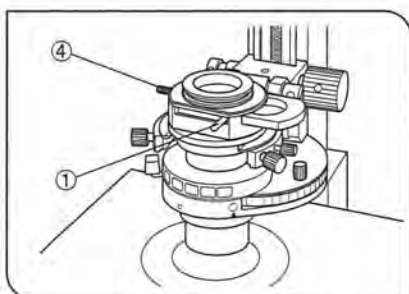

Fig. 64
(Figs. 64 to 66)
1. Rotate the condenser's turret for the BF (brightfield) light path (with no optical element engaged in the light path). (Fig. 64)
2. Slide the polarizer detaching lever ① on the IX-LWPO polarizer to engage the polarizer in the light path. (Fig. 64)
7. While observing the objective's exit pupil, rotate the polarizer rotation/clamping knob ④ on the polarizer unit horizontally until the black interference stripe becomes darkest. This is the position for use of the polarizer. (Figs. 64 & 66)